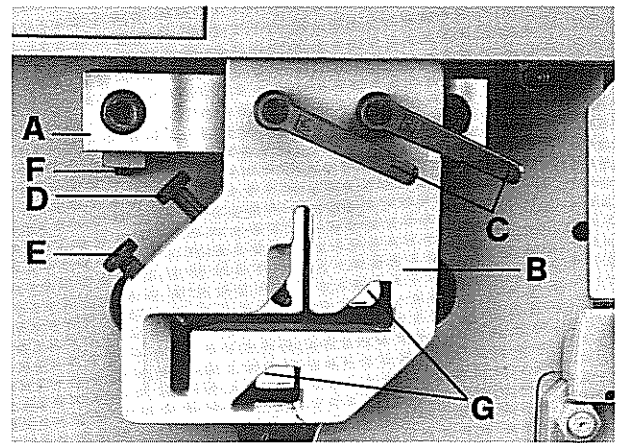

Fig. 46: Hold-down KBLH 300
- a) KBLH 300: Loosen clamping levers "B", and push the hold-down plate "C" off the stop rail (Cf. fig. 46).
(Cf. fig. 46)